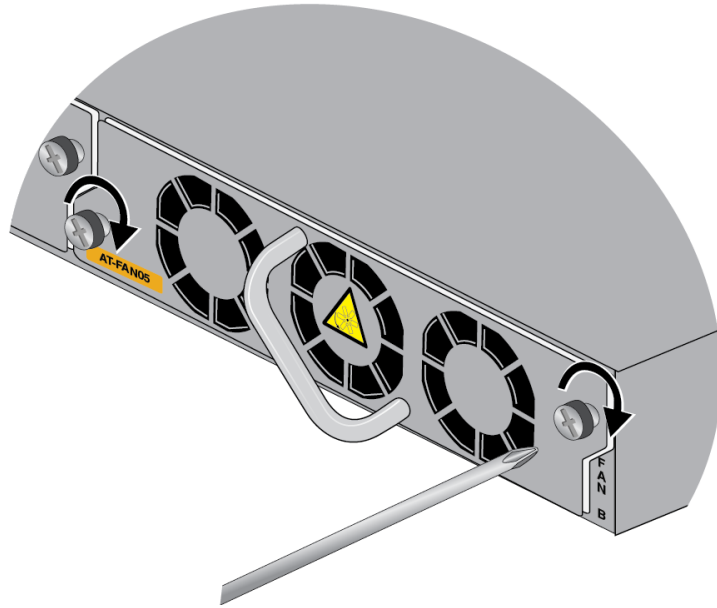

Figure 159. Tightening the Two Captive Screws on the FAN05 Module
4. Tighten the two screws on the module to secure it to the switch. Refer to Figure 159.